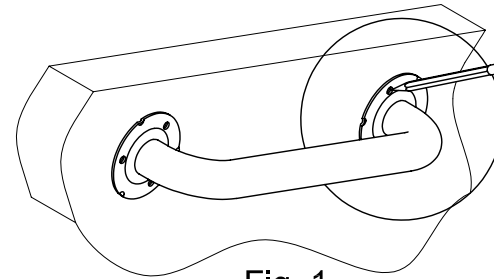

Fig. 1
- Step 1. Locate position on the wall and mark location of the holes for mounting screws .(Fig.1)